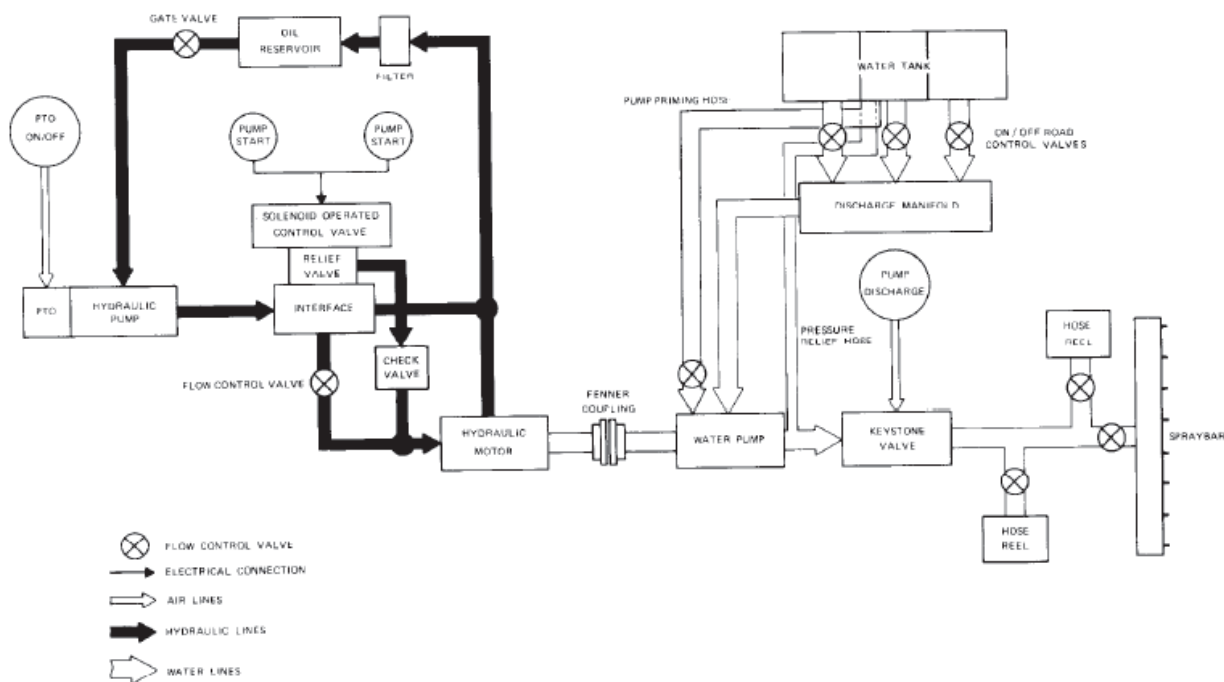

Figure 7 Simplified Water Circuit Diagram
26. Figure 7 illustrates the relationship between the electrical, air, hydraulic and water circuits on the water tanker.